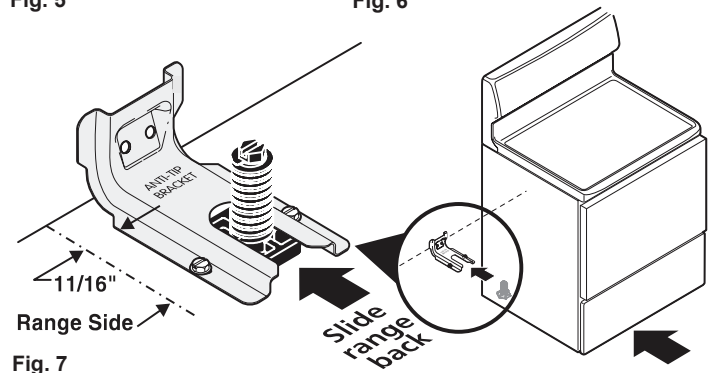

Fig. 7
**1c. Level and Position Range** - Level range by adjusting the (4) leveling legs with a wrench. **Note:** A minimum clearance of 1/8" is required between the bottom of the range and the leveling leg to allow room for the bracket. Use a spirit level to check your adjustments. Slide range back into position (See Fig. 7). Visually check that rear leveling leg is inserted into and fully secured by the Anti-Tip Bracket by removing lower panel or storage drawer. For models with a Warmer Drawer or broiler compartment, grasp the top rear edge of the range and carefully attempt to tilt it forward.